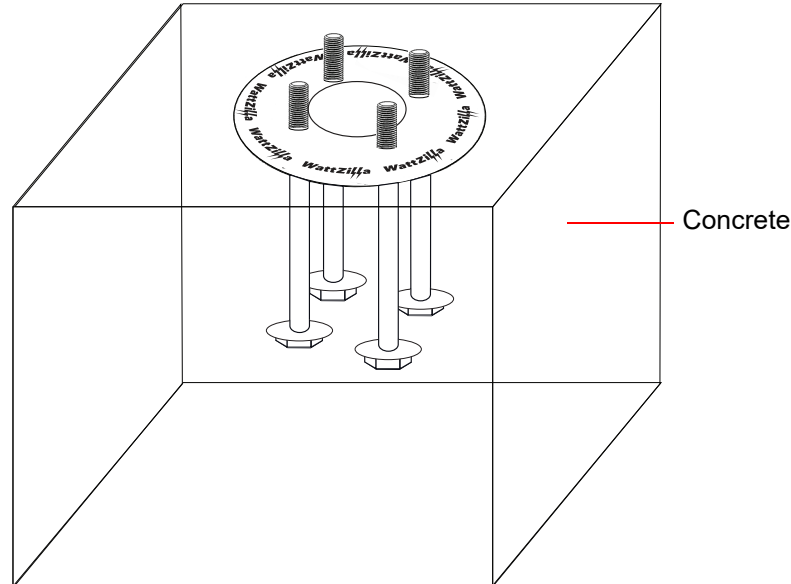

Figure 9. Pole Base Subassembly in Concrete Base (Conduit and Electrical Wires Removed from Illustration for Clarity)
3. Insert and screw the hex anchor bolts (with the attached washers) to the bottom of the bolt positioning plate, leaving 1.5 inches of thread above the plate (Figure 9). (The name *WattZilla* appears on the top of the pole positioning plate, and the threaded ends of the hex anchor bolts are located above the top of the plate.)
4. Route the wiring through a conduit and up through the center of the bolt positioning plate (Figure 9). Starting from the top of the bolt positioning plate, five feet of electrical wiring should be available for wiring to the WattZilla enclosure.
5. Pour an adequate amount of concrete to fill the hole or use the amount required by local codes, routing the concrete around the conduit (Figure 9). Avoid getting any concrete inside the conduit.
6. Immerse the bolts into the center of the concrete with the top side of the bolt positioning plate facing up, ensuring that the bolt positioning plate is located on the top surface of the concrete (Figure 9). Ensure that no concrete covers the bolt positioning plate and that the plate is level. The washers should be located on top of the bolt heads as shown.